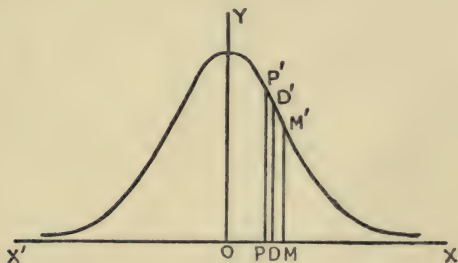

FIG. 7.
**Graphic Method.** These may be illustrated graphically by use of the probability curve (Fig. 7).
2. Assume that the lines  $OP$ ,  $OD$ , and  $OM$  are drawn to scale in Fig. 7, and compare their relative lengths with the results of No. 1.